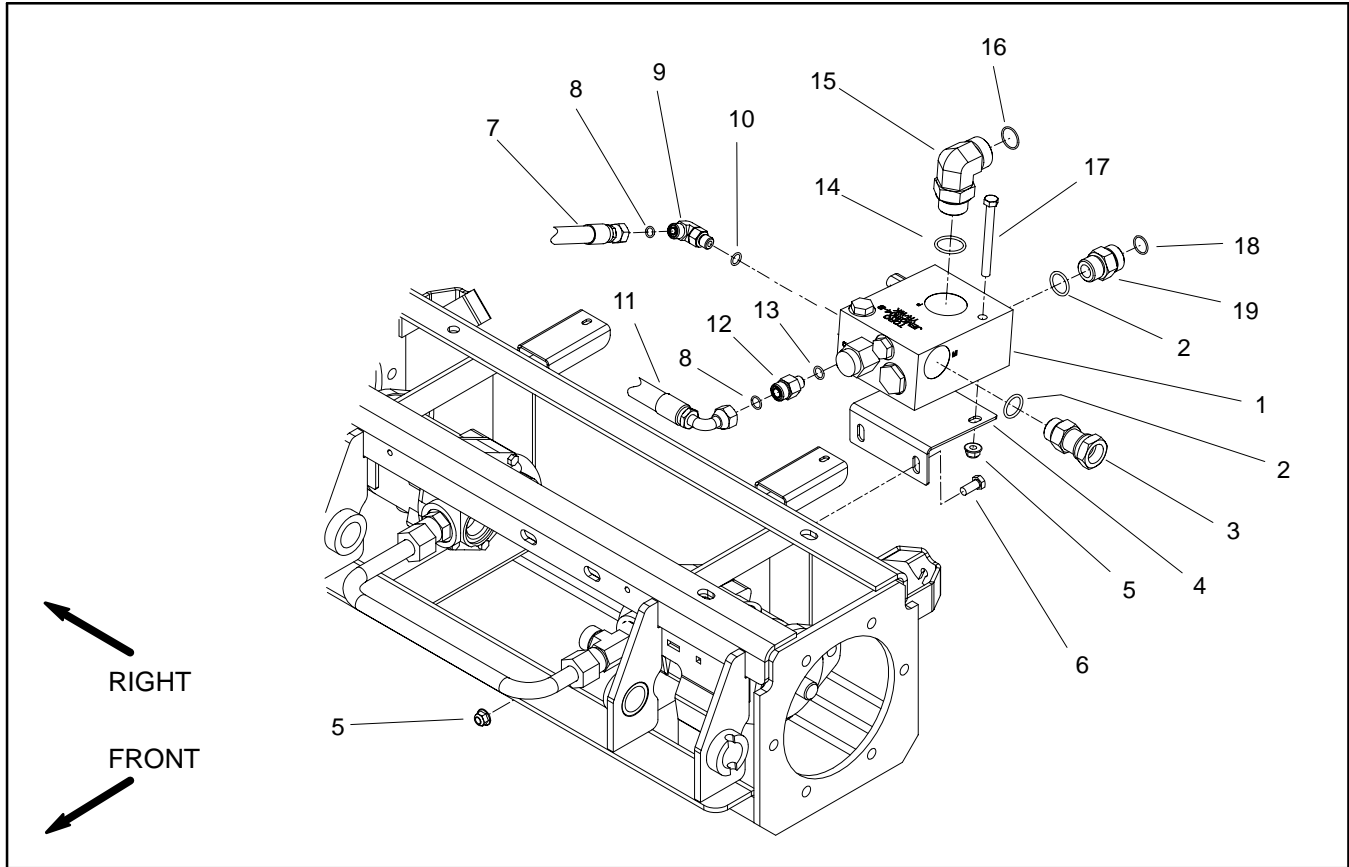

Figure 76
### Removal (Fig. 76)
5. Remove traction manifold from the frame using Figure 76 as a guide.
### Installation (Fig. 76)
2. Install traction manifold to the frame using Figure 76 as a guide.